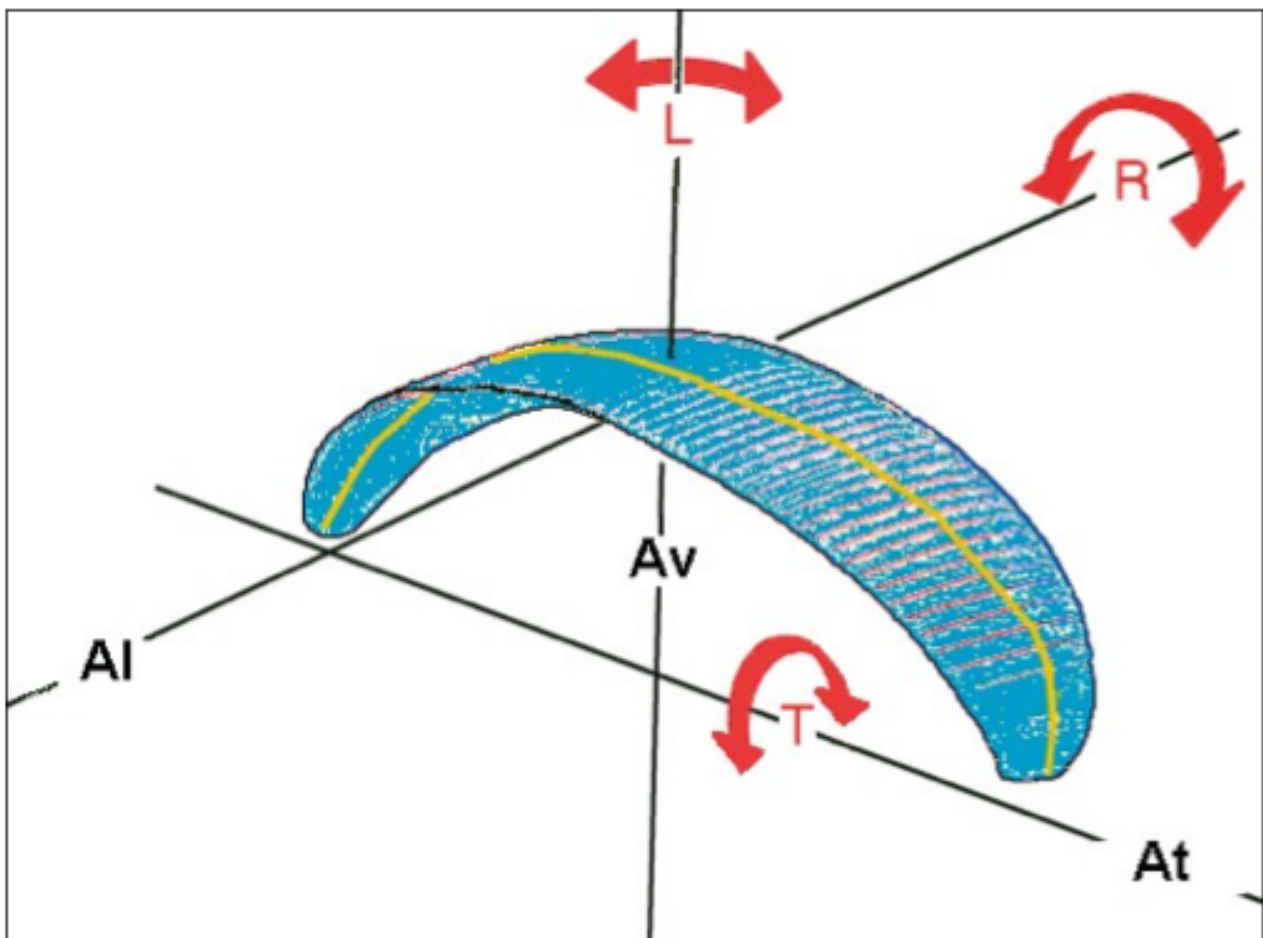

Figure A30: Axes and movements in flight. Yaw (L) around the vertical axis (Av). Roll (R) around the longitudinal axis (Al). Pitch (T) transverse axis (At).
A paraglider can have a rotary motion around 3 principal axes (Figure A30):
1. **Vertical axis:** the movement around this axis is called **yaw** (L in figure A30). It is a rotational movement forward/backwards of the wing tips. **Question 114.**
2. **Longitudinal axis:** the movement around this axis is called roll (R in figure A30). It is a lateral movement up/down of the wing tips. **Question 112.**
3. **Transverse axis:** the movement around this axis is called pitch (T in figure A30). It is a movement forward/backwards across the wing. **Question 113.**